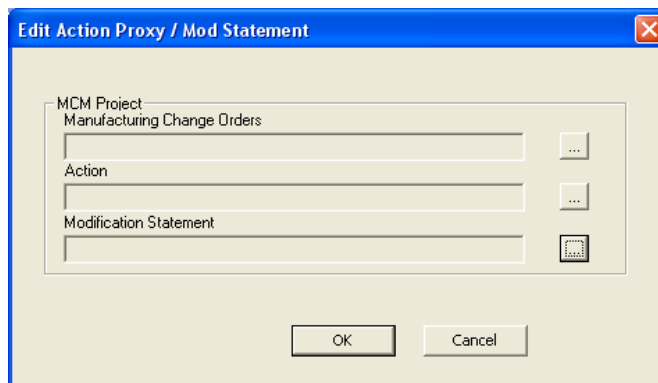

Figure 32: Edit Action Proxy/Mod Statement
- 3) Click Push button with the three dots , Please refer to the Figure 32, and select **Manufacturing Change Orders, Action, or Modification Statements..**